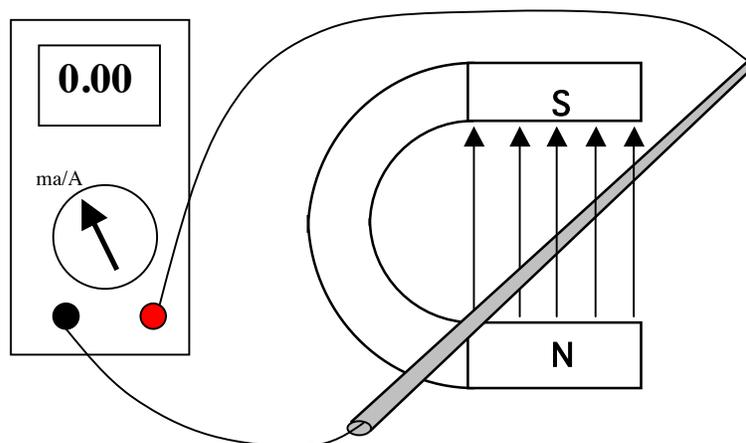

Figure 11.11a
Turning the Genecon crank makes coils of wire rotate between two magnets inside the motor. This makes the charge contained in the coil wire move in a magnetic field -- in a direction sideways to the wires. How does this make charge move through a bulb connected to the motor? We will investigate the simpler situation in Figure 11.11a, with your hands making a straight wire move in a stronger magnetic field with a nearly uniform pattern like that of the field in the Genecon motor.
Figure 11.11a shows a digital multimeter with its selector set to read current, making it an ammeter. To determine which direction of charge flow the meter readout indicates, connect a D-cell and two long bulbs in series with the meter. The D-cell's orientation in the circuit tells you which direction conventional charge moves -- and the meter reading will display either a negative sign or no sign corresponding to that direction of charge flow.
After you connect the circuit in Figure 11.11a, use your hands to make the wire move. Watch the galvanometer needle, which will respond to charge movement along the wire.
1. To simulate what happens in a generator, you will make the straight wire in Figure 11.11a move to the left in the magnetic field. This movement will be sideways to the wire and sideways to the direction of the magnetic field arrows. Draw a red arrow on Figure 11.11a to indicate the direction the charge in the wire moves during this sideways wire movement. **Before pushing the wire, use the Right Hand Rule to predict the direction that charge will move along the length of the wire.** If the galvanometer detects charge flow in the circuit with the straight wire, you should draw blue arrows on that wire to show the direction the magnetic field pushes moving charge in the wire to make the observed flow occur. Then move the wire in the opposite direction, and again note the direction of magnetic pushing on the charge that's present in the straight wire.
2. The Genecon motor has many turns of wire, so you should explore using coils with many turns of wire to see if that causes a greater effect. The teacher will provide various coils with different numbers of turns. Figure 11.11b shows a top view of Figure 11.11a with a coil replacing a straight wire. This has been done to make the physical situation easier to visualize and analyze.
Let's apply the Right Hand Rule to the apparatus in Figure 11.11a, diagramed below with arrows. Refer to the diagram of the Right Hand Rule in Figure 11.8 while doing each of the following:
(Figure 11.11a WITH DIRECTIONAL ARROWS AND EXPLANATION)
Imagine that the multimeter in Figure 11.11a is replaced by a light bulb. The wire moving in a magnetic field will cause charge flow through the bulb -- exactly like it caused flow through the multimeter. This is the generator effect. Is there an electric pressure difference in the generator terminals driving charge flow through the bulb -- just like in battery terminals? Why or why not?